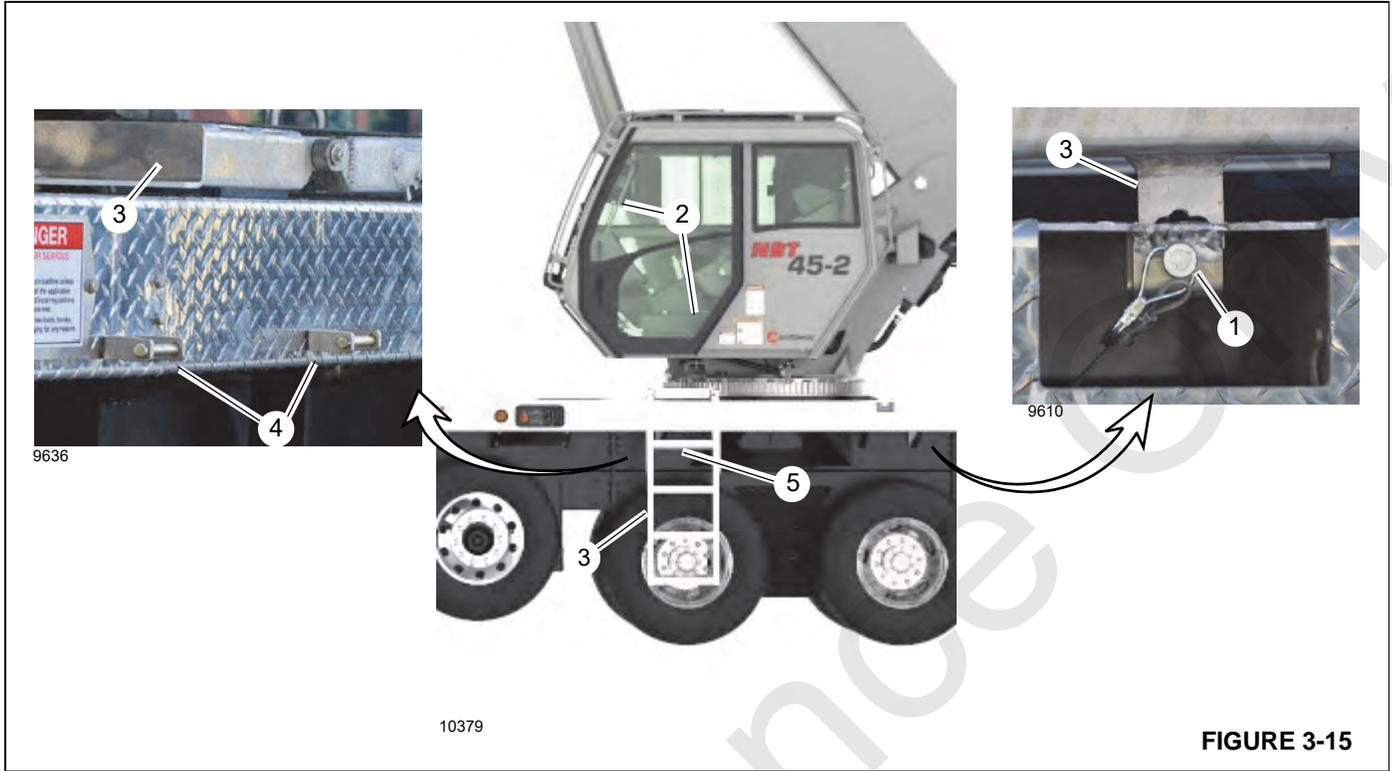

FIGURE 3-15
To enter the crane cab use the ladder (3, Figure 3-15) stowed next to the cab on the carrier decking and position it as shown in Figure 3-15. The ladder is secured in position with catches (4). After opening the cab door, climb the ladder and at the same time grasp the grab handles (2) in the cab doorway to enter the cab. Do not try to access the crane cab by other means. When done, release the ladder using release handle (5) and lift and rotate to the stowed position.